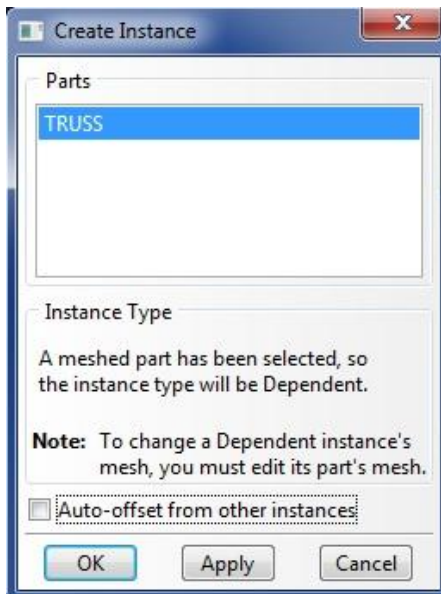

Figure 18. Create Instance Dialog Box
- Double click on the **Instances** icon in the expanded model tree. This feature will allow multiple parts to be brought into the assembly. The Create Instance dialog box will appear (Figure 18).